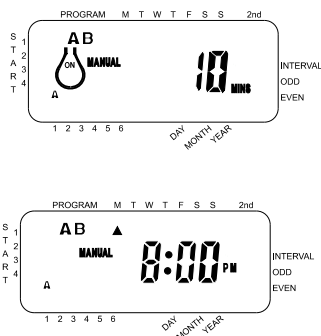

Figure 10: Semi-Automatic Watering Entered for A and B Programs, All Stations
- Turn the rotary dial to Auto, then press the Manual key. The display will show "AB", "MANUAL", and "ALL" will be blinking [See Figure 10]. This indicates all four or six stations in the A and B programs will semi-automatically water for their assigned durations in sequence.
Water durations assigned to station 1 in program A will water first, then move to station 1 in program B before advancing to the second station and will continue alternating. Only those stations assigned a watering duration will water when using the manual or semi-automatic mode. [See Figure 10]